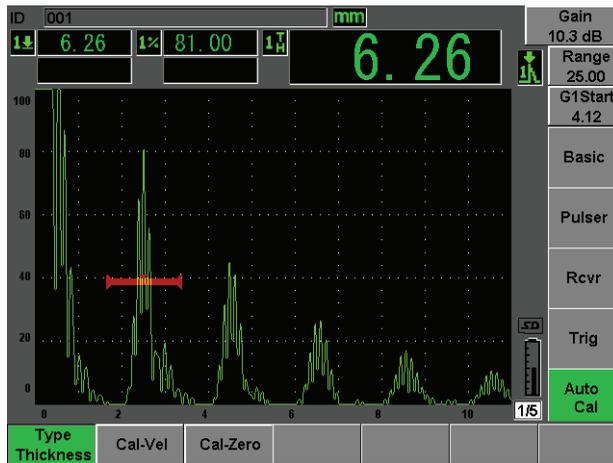

Figure 2-13 The Auto Cal menu
4. Select the **Auto Cal** menu (see Figure 2-13 on page 44).